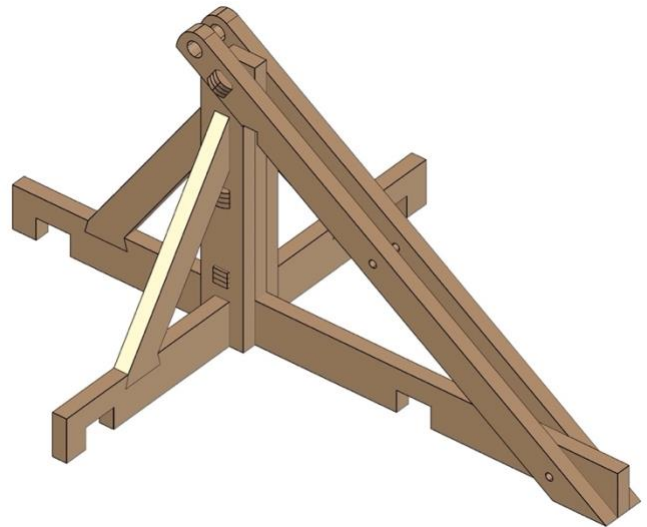

Fig. 48
- *Fig. 48* shows the completed process.